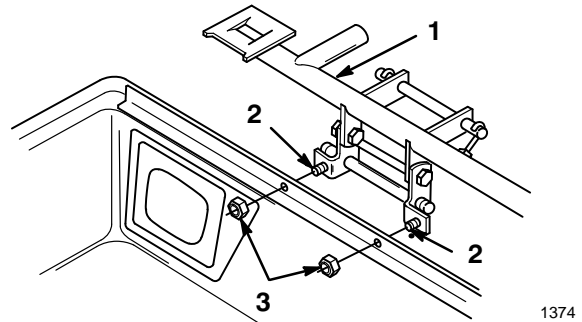

Figure 12
4. Mount the frame hinge to the cover with the (2) 1/4" bolts attached to it. Secure with (2) 1/4" lock nuts (Fig. 12).